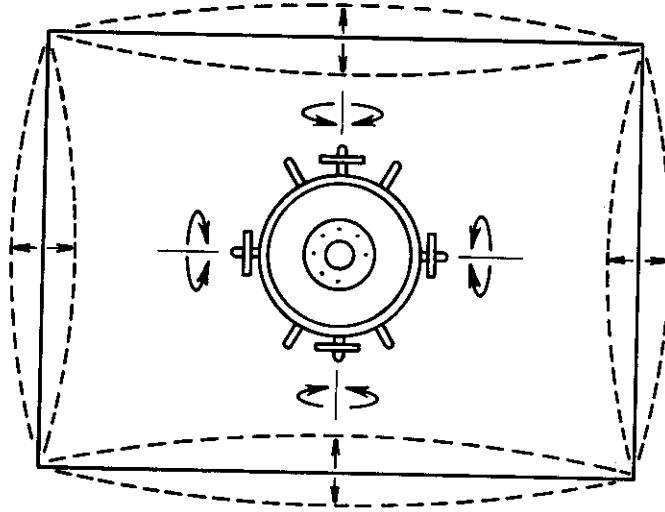

Figure 4-6 Pincushion/Barrel Adjustments
17. Adjust the two side magnets and the two top magnets (see Figure 4-6) to align the sides of the display.